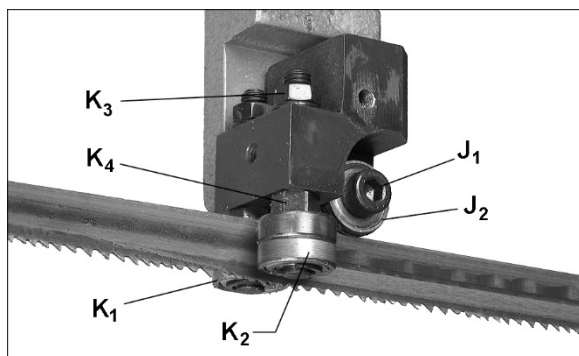

Figure 7-7: blade guide bearings
2. Loosen screw (J_1 , Figure 7-7) and adjust back bearing (J_2) to approximately 0.002 to 0.003 inches from back edge of blade. Tighten screw (J_1).